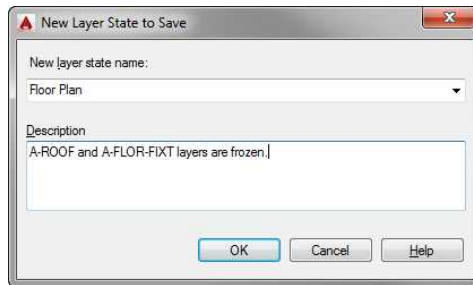

FIGURE 6.57: Saving a layer state in the New Layer State To Save dialog box
6. In the New Layer State To Save dialog box, enter **Floor Plan** in the New Layer State Name field. If you like, enter a description for the layer state as well (see Figure 6.57).